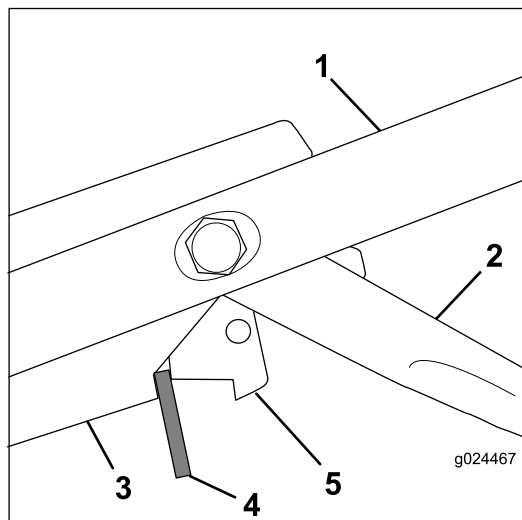

Figure 29
3. Insert a 8 mm (5/16-inch) thick spacer between the blade-brake-control lever and the control bracket on the handle (Figure 29).